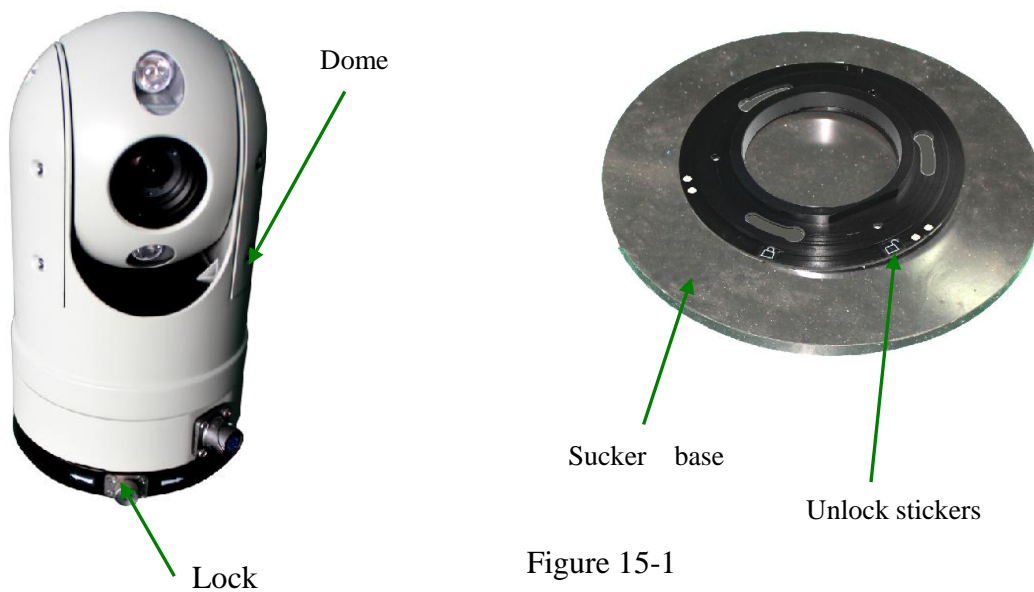

Figure 15-1
2.1First, make the dome's lock aligned with the Unlock stickers as shown in Figure 15-1.